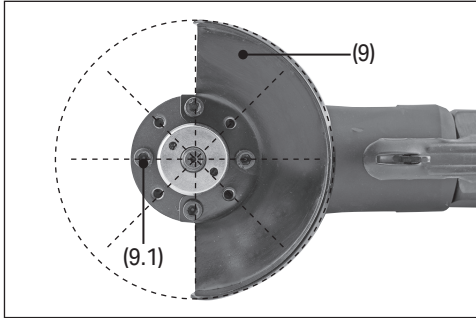

Fig. 3
6.3 Reposition the Guard – Fig.3
- Rotate the guard (9) in 45° increments to the required angle.